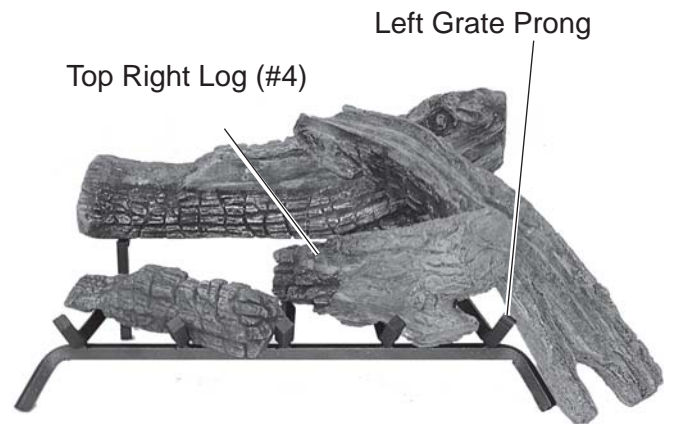

Figure 79 - Resting Top Right Log (#4) on Bottom Left Log
5. Rest right end of Top Right Log #4 on bottom right log. *See Figure 79.*